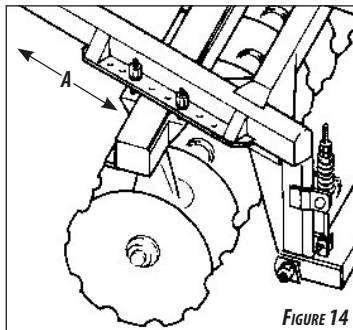

FIGURE 14
- In the case of difficult penetration open the harrow angle like shown in figure 14;